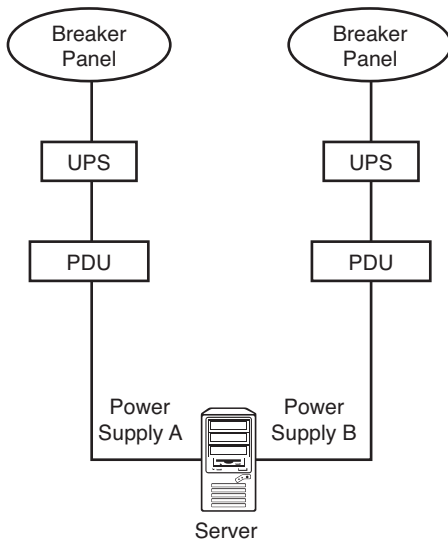

FIGURE 21.1 Note how a completely redundant power infrastructure requires attention not only to hardware components but all the way back to the breaker panels.
- ▶ Primary power for each redundant power supply should culminate in redundancy at the breaker boxes as well. That is, each power supply should ultimately receive its power from a dedicated breaker panel, like that illustrated in Figure 21.1.